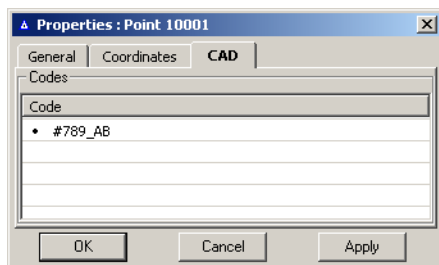

Figure 4-61. Point Properties – CAD Tab
2. On the **Properties** dialog box, click the **CAD** tab (Figure 4-61).